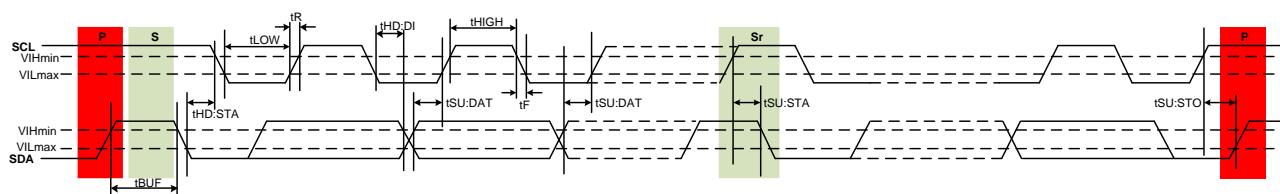

Figure 2 I²C or I³C Basic Bus AC Input Timing Parameter Definition
2. See Figure 2 for input timing parameter definition.
7. The device must be in configured in I3C Basic mode to guarantee  $t_{DOUT}$  value. See Figure 2 I2C or I3C Basic Bus AC Input Timing Parameter Definition
The GD30TS139 device follows the I2C or I3C Basic bus timing requirements. The Figure 2 and Figure 2 I2C or I3C Basic Bus AC Input Timing Parameter Definition show the timing diagram for Data Bus Input and Data Output parameters.